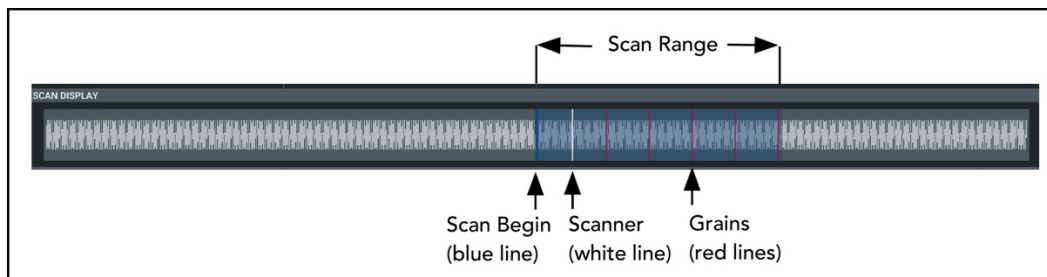

Figure 3. The Scan Display indicates:
9. Scan Begin [0,1] - Controls the starting point in the sound buffer to start granulating (figure 3). This is a relative value, where 0 indicates the beginning of the sound file, 0.5 indicates the halfway point, and 1.0 indicates the end, regardless of the length of the currently selected sound file.
10. Scan Range [-1,1] - How much of the file to scan. Shown in the Scan Display (figure 3). A value of 1 means scan the entire file. A value of 0 holds the scanner in place at the Scan Begin position. One can also set negative values to extend the range to the left of the Scan Begin position. The scan region loops around to the beginning when extended.
Scan Begin (9) and Scan Range (10) together determine the region of the sound file through which the scanner moves. For example, if Scan Begin is at 0.50 and Scan Range is set to 0.25, then the scan area will extend from halfway through the sound file to 3/4 of the way through the sound file (see figure 3). Scan Speed controls how quickly the scanner moves through the scan region. When the scanner reaches the end of the scan region, it loops back around to the beginning of the scan region. Note that while the scanner always remains in the scan region, a grain may exceed the boundaries of the scan region if it begins near the edge of the scan region and Grain Duration is long enough. This is because EC2 always prioritizes grain integrity.